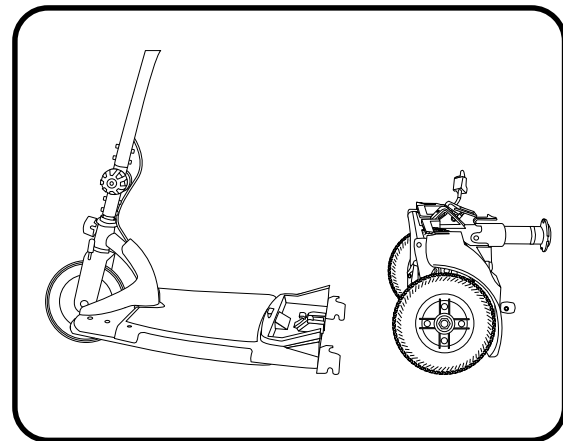

Figure 18. Frame Sections
3. Carefully lift the front section away from the rear section. **See figure 18.**
1. Position the front and rear sections of your scooter as shown in **figure 18**.